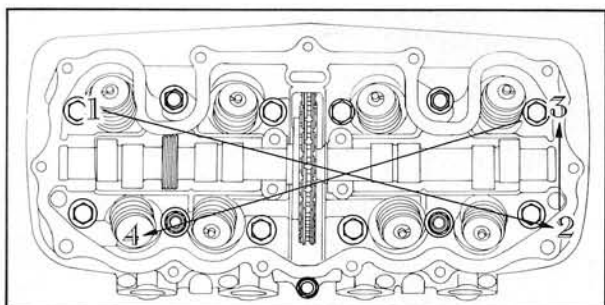

Fig. 3-8 Removal sequence of cylinder head securing bolts
15. Loosen the cylinder head securing bolts in a criss-cross pattern, starting at external one as shown in Fig. 3-8.